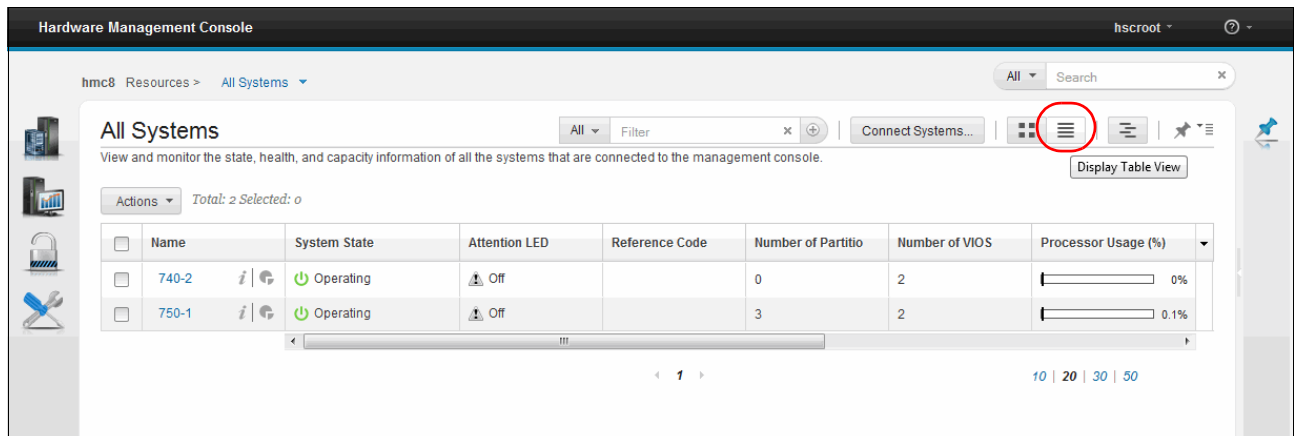

Figure 5-62 Table view
- The *Table* view is shown in Figure 5-62.